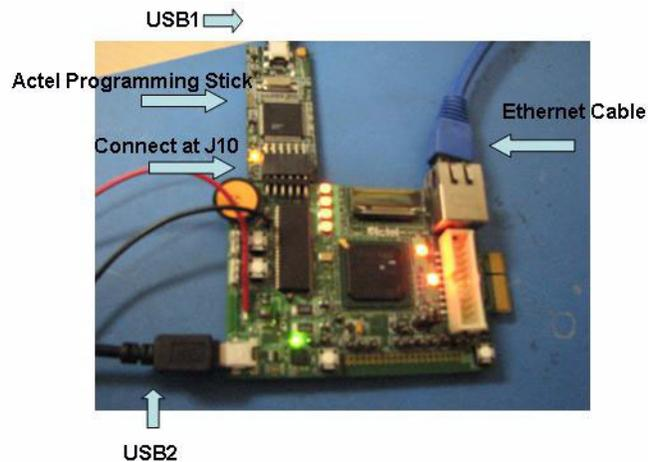

Figure 1-1 · M1AFS-EMBEDDED-KIT Connections
1. Connect the Actel M1AFS-EMBEDDED-KIT board to the Actel low-cost programming stick. This is done by connecting the J10 pins on the M1AFS-EMBEDDED-KIT board to the programmer, as shown in Figure 1-1.
2. Connect one end of USB miniB cables to the USB connections on the M1AFS-EMBEDDED-KIT board and the Actel low-cost programming stick. These connections are labeled USB 1 and USB 2 in Figure 1-1.